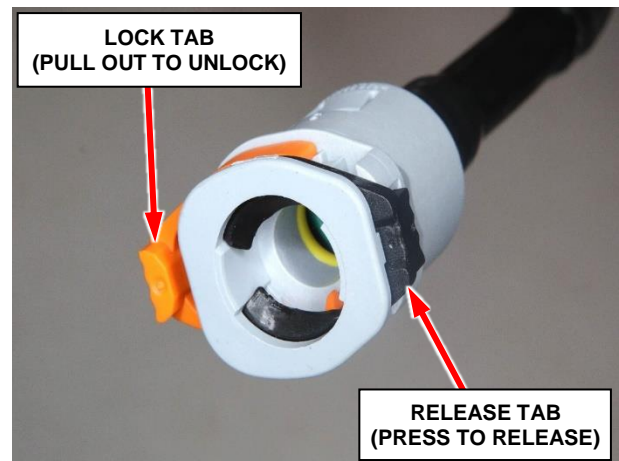

Figure 11 – Lower Fuel Line Lock
13. Unlatch the lower fuel line lock by pulling up the lock tab, then press on the release tab to disconnect the fuel line (Figure 11).